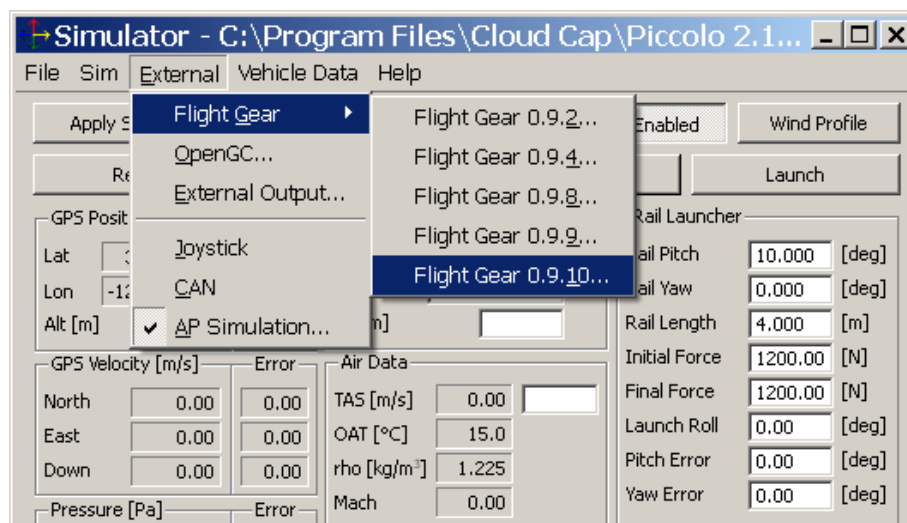

Figure 43 - FlightGear
1. If you wish to use FlightGear for visualization, open the **External** menu and select the latest version of FlightGear that is on your PC (**Figure 43**).